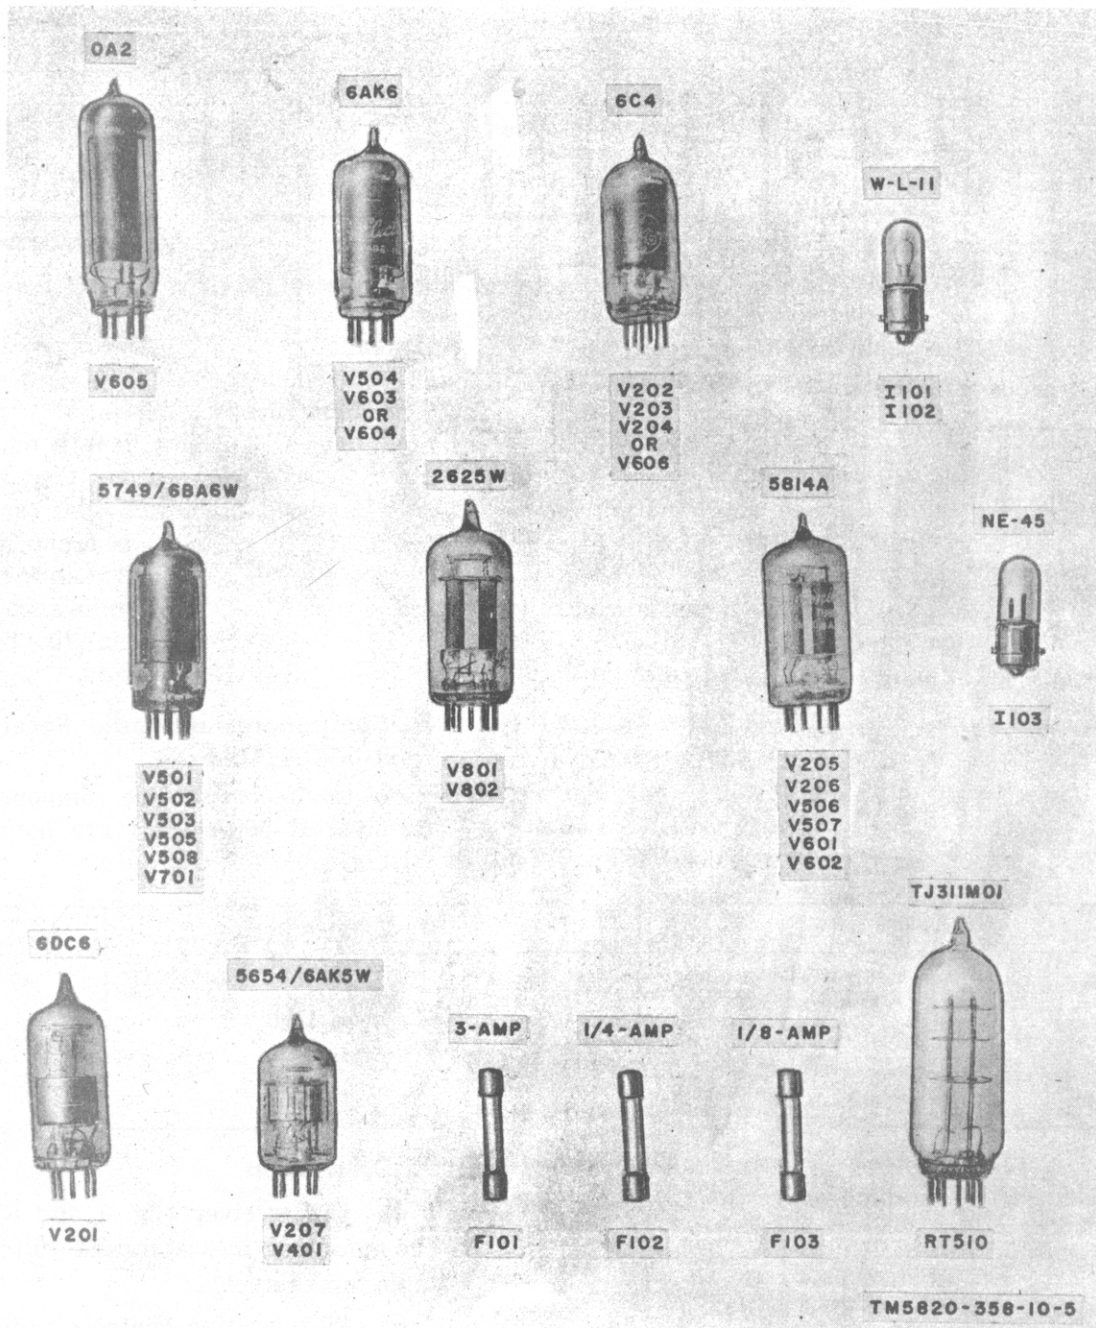

Figure 5. Running spares.
b. *Running Spares.* (fig. 5). The following is a list of running spares except as noted.